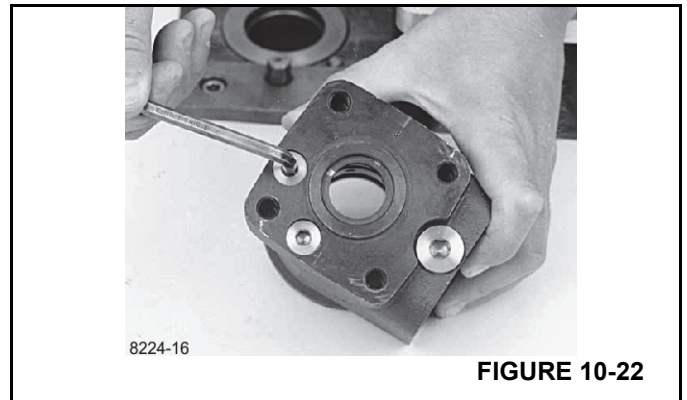

FIGURE 10-22
14. Press the neutral position springs (9) out of their slots in the spool.
15. Remove dust seal and O-ring / Kin-ring / Roto Glyd (Figure 10-22).
16. Remove plugs from shock valves using a 6 mm Allen wrench (Figure 10-22).